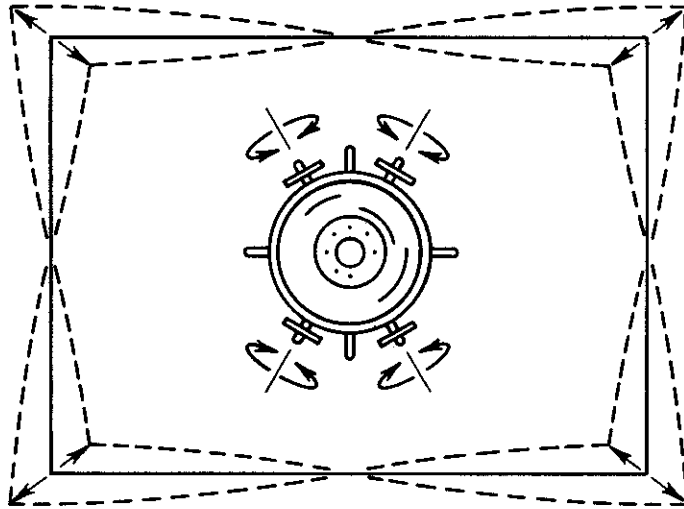

Figure 4-4 Trapezoidal Adjustments
The magnets affect the display as shown in Figures 4-4 and 4-6. Avoid rotating magnets unless abnormal effects result, as shown in Figures 4-4 and 4-6.
15. Rotate each of the corner magnets (see Figure 4-4) in turn, to square up the corners.